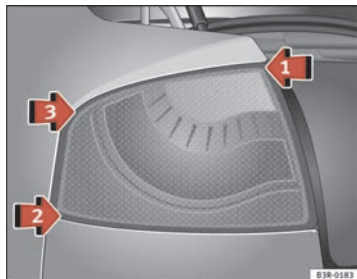
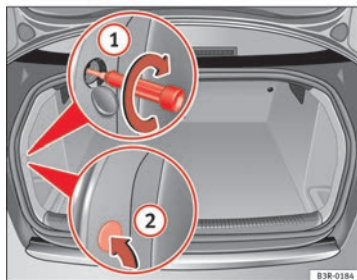

Fig. 215 Fitting the tail light unit
Fig. 216 Luggage compartment: Location of the bolt securing the tail light unit
- First place the tail light unit in ⇒ fig. 215 arrow ① in the housing.
- Gently press the tail light unit against the housing, first in position ② and then in position ③, until that the clips engage firmly in the rubber mountings.
- Apply gentle pressure to the front side of the tail light unit and secure using the screwdriver, from the luggage compartment ⇒ fig. 216 ①.
- Replace the cover ② in the interior trim.